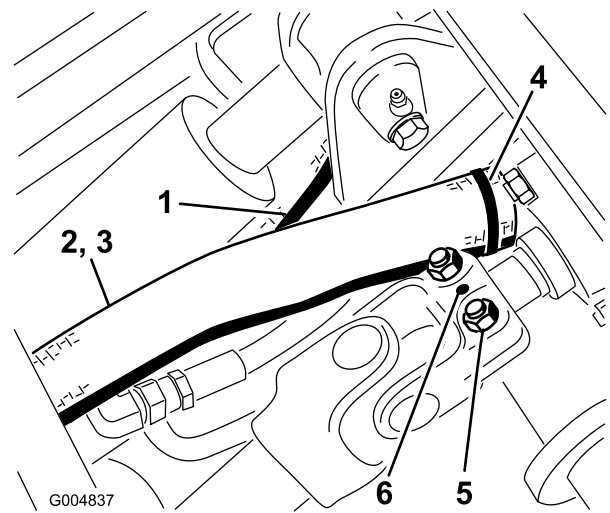

Figure 111
20. Connect the drive shaft to the gear box shaft in the winter frame and torque the bolts (5/16 inch) to 175-225 in-lb (20 to 25 N·m). Install the roll pin (Figure 111).